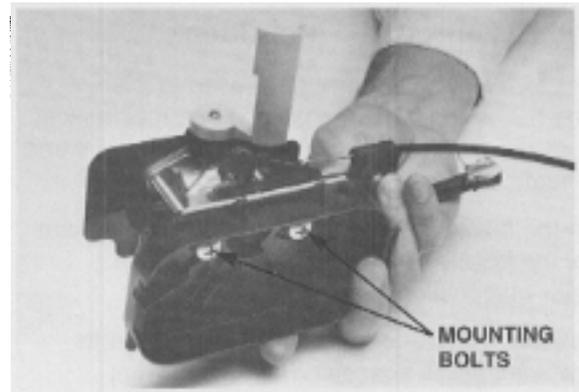

Figure 26
3. Install the carburetor mounting bolts (**Figure 26**).